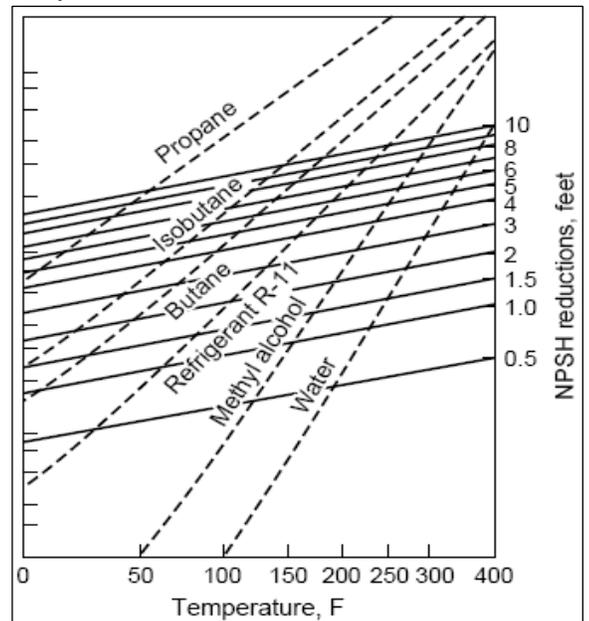

Figure 3 – NPSHR reduction graph
- Because of type of method utilized by pump vendor, the NPSH_R given by vendor for pump operation without cavitation and vibration is practically higher than the actual value. Hydraulic Institute introduces a graph for correcting NPSH_R. The following rules apply while using this Figure 3.
Utilizing Figure 3 for other liquids or extrapolation of data beyond the ranges indicated in the graph may not produce accurate results. Generally it is not advised to reduce NPSH_R and better to consider it as a safety margin, rather than design for it.